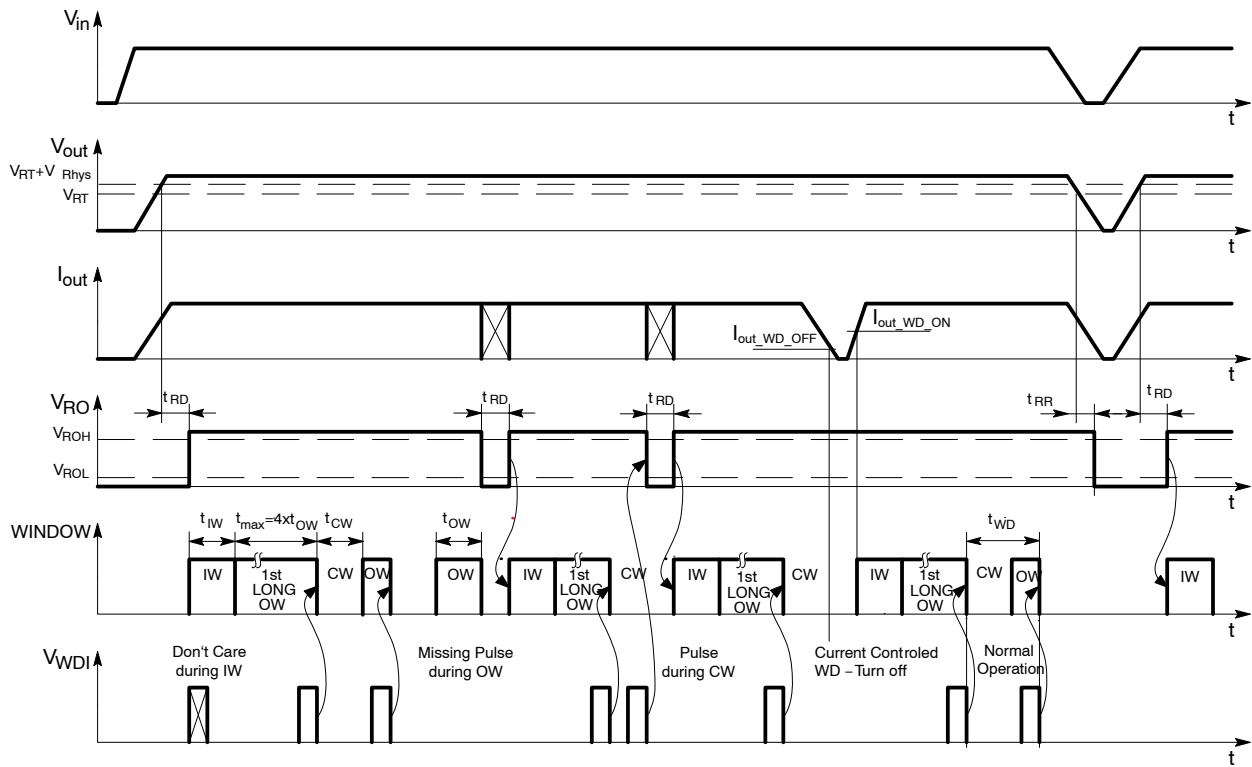
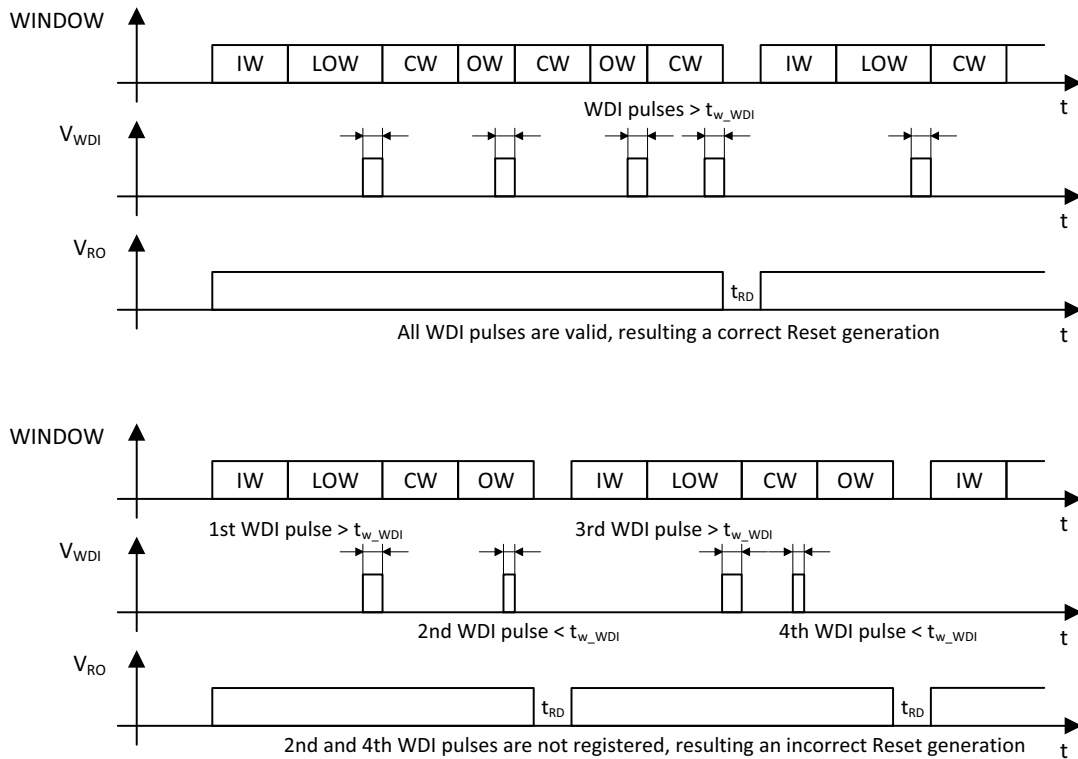

Figure 40. Window Watchdog Signal Diagram
Figure 41. Valid WDI trigger signal
The watchdog slow, fast or off state is set by pins WM1 and WM2 (see table in Figure 39). The timing values used in this description refer to typ. values when WM1 and WM2 are connected to GND (fast watchdog and reset timing). The state diagram of the window watchdog (WWD) and the watchdog and reset mode selection table is shown in Figure 39. The WWD timing is shown in Figure 40. After power-on, the reset output signal at the RO pin (microprocessor reset) is kept LOW for the reset delay time t_{RD} (16 ms). RO signal transition from LOW to HIGH triggers the ignore window (IW) with duration of t_{IW} (32 ms). During this window the signal at the WDI pin is ignored. When IW ends a long open window with maximum duration of (128 ms, t_{max} = 4 * t_{OW}) is started. When a valid trigger signal is detected during long open window, a closed window (CW) with duration of t_{CW} (32 ms) is initialized immediately. WDI signal transition from HIGH to LOW is taken as a trigger. The WDI pulse to generate valid trigger should be longer than the Minimum WDI Pulse Width (t_{w_WDI}) and it has to be present before end of the long window. Valid WDI trigger signal is shown in Figure 41. When CW ends a standard open window (OW) with maximum duration of t_{OW} (32 ms) is initiated immediately. The OW ends immediately when valid trigger appears at WDI input. For normal operation the microprocessor timing of WDI pulses must be stable and correspond to t_{WD}. A reset signal is generated (RO goes LOW) if there is no valid trigger (missing pulse at WDI pin) during OW or if a pre-trigger occurs during the CW (unexpected pulse at WDI pin).